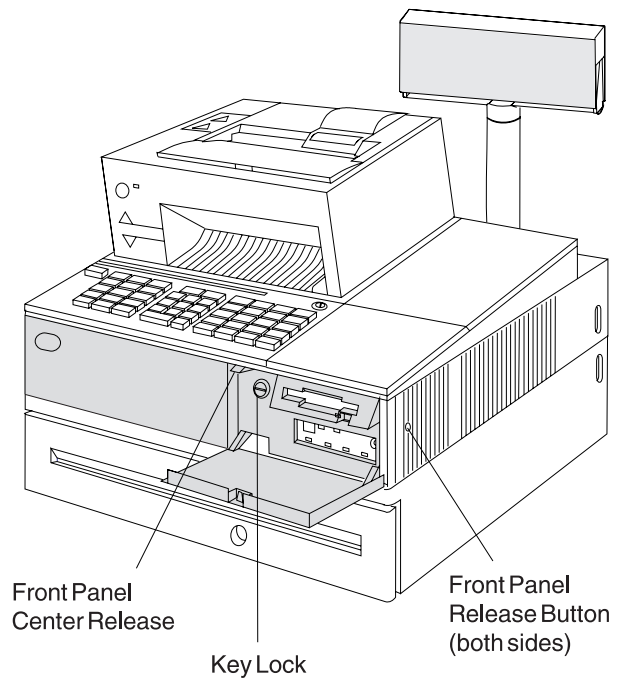

Figure 1-5. Front Panel Remove and Replace
- 1** Ensure that the keylock (if present) behind the front panel door is turned all the way clockwise to the unlocked position. Notice the locked and unlocked symbols next to the keylock. See Figure 1-5.